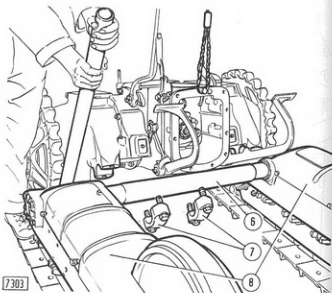

Fig. 121 - Removing the Track Carriages from Bevel Drive/Hub Reduction Case
the front end of bevel drive case (see Fig. 121) and take up the weight of suspension bar (6). Remove caps (7) and push track carriages forward using a suitable lever (8).